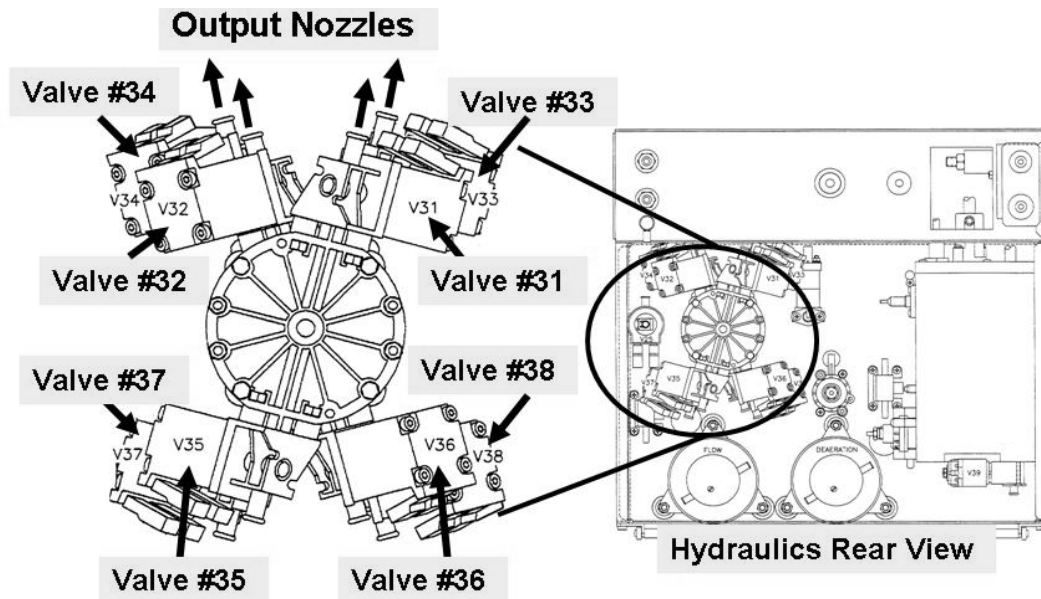

Figure 96 – Balancing Chamber Valves
- b) Repeat the Diagnostic Valve Leak Test on the leaking valve(s). TWO (2) possible scenarios:
- 2) **IF fails:** Replace the leaking valve(s)*. *To LOCATE the valve refer to Figure 96 (page 534). **NOTE:** The previous Actuator-Test Board is probably good!
- a) Referring to Figure 96 (page 534), turn the machine off and remove the clear OUTPUT tubing from all four top-side balancing chamber valves (#31 through #34).
NOTE: **Needle nose pliers** are required (**WARNING!** do NOT use a plastic clamp) to QUICKLY clamp valve #35's or valve #37's white (bottom) tubing IF a leak is seen. Referring to Figure 96 (page 534), locate these valves at this time (left side, bottom).